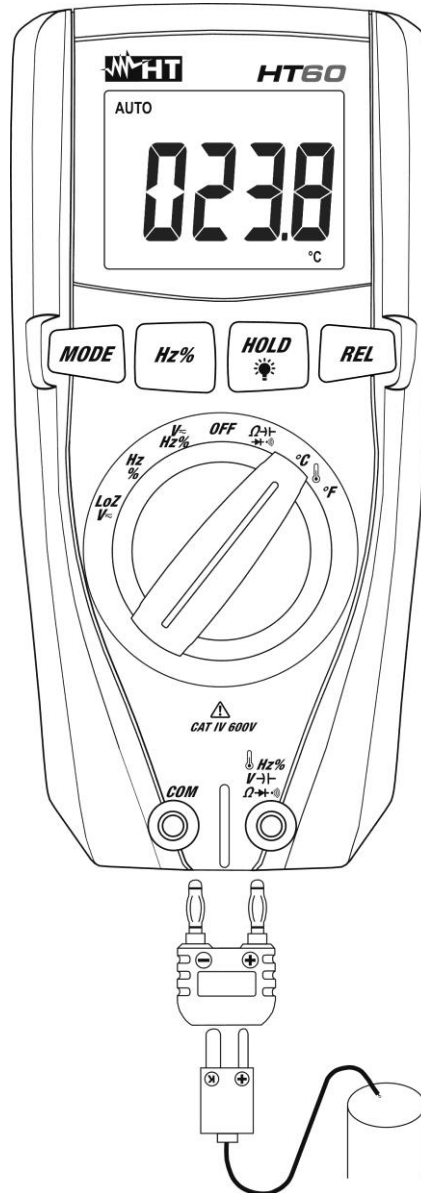

Fig. 9: Use of the instrument for Temperature measurement
2. Insert the provided adapter into input terminals **Hz% V- Ω- (polarity +)** and **COM** (polarity -) (see Fig. 9).